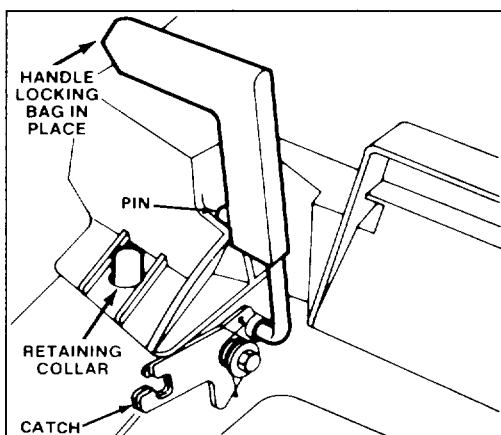

Figure 12
3. INSTALLING BAG—Slide hole in bag frame onto retaining collar on housing (Fig. 12) and set rear of bag frame onto lower handle.
4. Pull chute door handle forward until pin clears catch and move handle rearward until pin locks in bag notch (Fig. 12). Chute door in mower housing is now open. It may be necessary to push down on top right of bag door to release handle locking pin from catch.